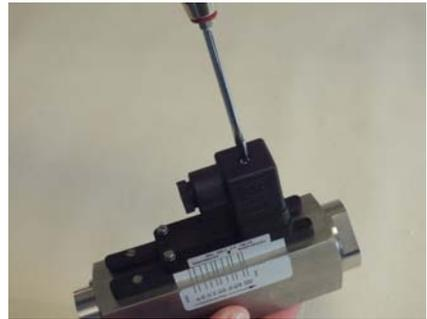

Fig. 19: Detach socket
1. ▶ Release the fixing screw (Fig. 19) from the socket
9. → Place the female socket onto the connecting plug and tighten the fixing screw (Fig. 19/1)